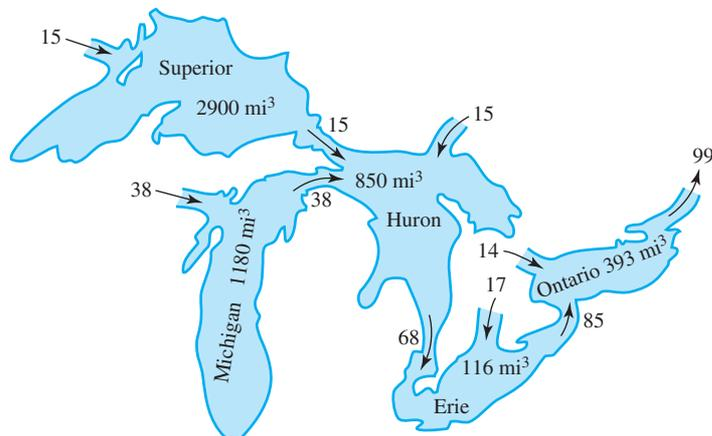

Figure 5.55 Compartmental model of the Great Lakes with flow rates (mi^3/yr) and volumes (mi^3)
A simple mathematical model that can be used to determine the time it would take to clean up the Great Lakes can be developed using a multiple compartmental analysis approach.[†] In particular, we can view each lake as a tank that contains a liquid in which is dissolved a particular pollutant (DDT, phosphorus, mercury). Schematically, we view the lakes as consisting of five tanks connected as indicated in Figure 5.55.
- (a) Use the outflow rates given in Figure 5.55 to determine the time it would take to “drain” each lake. This gives a lower bound on how long it would take to remove all the pollutants.
- (c) Finally, to take into account the fact that pollution from one lake flows into the next lake in the chain, use the entire multiple compartment model given in Figure 5.55 to determine when the pollution level in each lake has been reduced to 50% of its original level, assuming pollution has ceased (that is, inflows not from a lake are clean water). Assume that all the lakes initially have the same pollution concentration p . How long would it take for the pollution to be reduced to 5% of its original level?